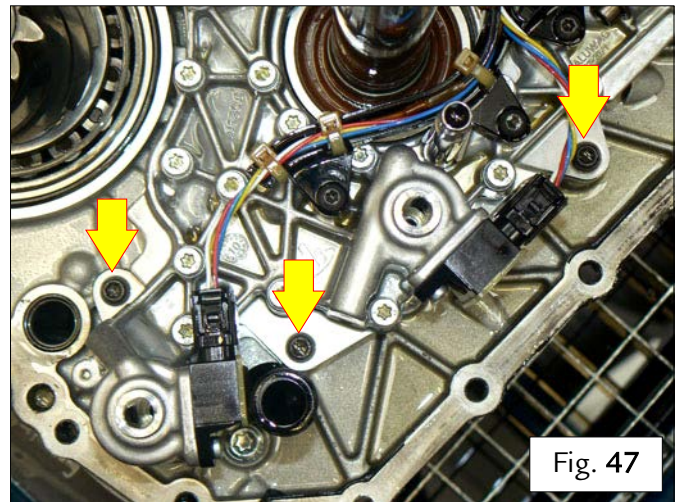

Fig. 47
- Hand-tighten the three new screws indicated fastening the SAP – Fig. 47.